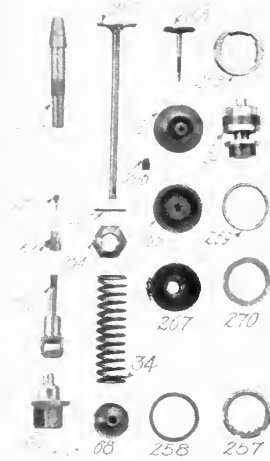

Fig. 58.
52. Intake and exhaust valves and their operating parts; priming and relief valves; cylinder plugs, etc. (*See Figs. 58 and 59.*)